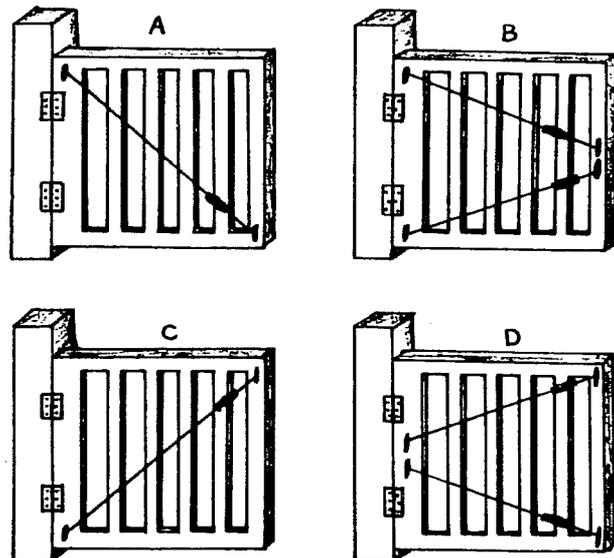

Figure 16
16. To prevent sagging, which gate in the Figure 16 is supported the best?